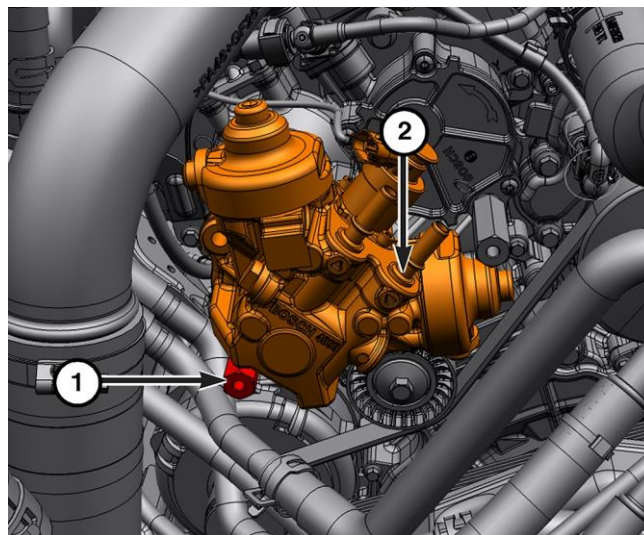

Figure 84 – HPFP Lower Bolts
9. Remove the lower bolt (1) from the HPFP and remove it from the vehicle (Figure 84).